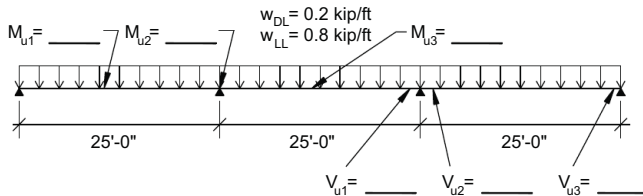

Figure 1
- Using Table 3-22c, calculate the maximum positive and negative moments and the maximum shear (LRFD) for each span shown in Figure 1. The beam is continuous, and you should assume  $1.2D + 1.6L$  is the controlling load combination for the loading shown.